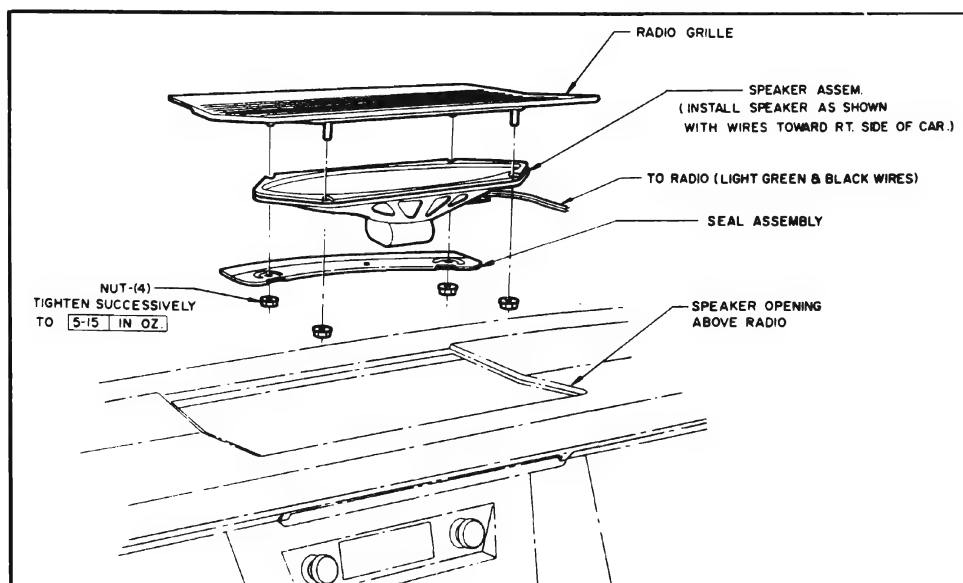

Figure 11-19—Front Radio Speaker Installation - 4400, 4600 and 4800 Series
3. Further disassembly of speaker from radio grille (see Figure 11-19) will be obvious on inspection.